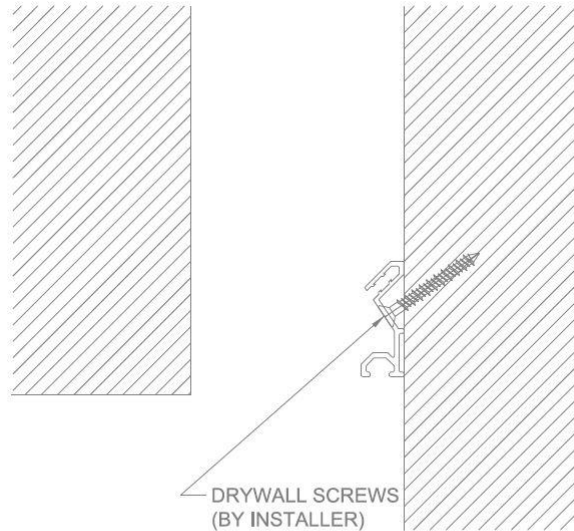

FIGURE 2
2. Attach the aluminum wall extrusions with an appropriate length drywall screw (by installer), making sure it penetrates the substrate. When attaching to a concrete wall, drill a hole into concrete using a $\text{Ø}5/32$ " masonry bit and attach using $\text{Ø}3/16$ " Tapcon anchors (by installer). **See Figure 2.**